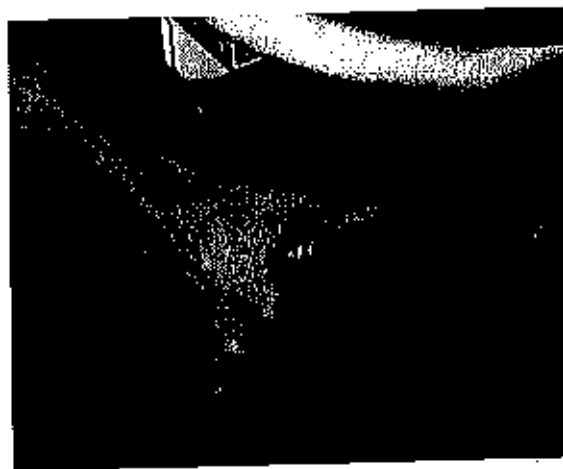

Figure 23: Press the Extend Button
5. Depress the extend (+) button to lower the undercarriage to its fully extended position as shown in Figure 23.